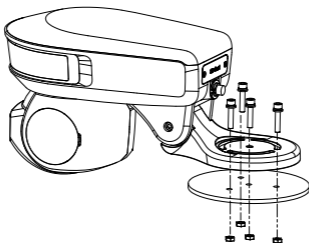

Figure 2-14 Install the Camera to the Base
3. Align the screw holes on the base mounting bracket with the screw holes on the installation base, and tighten the screws as shown in Figure 2-14.